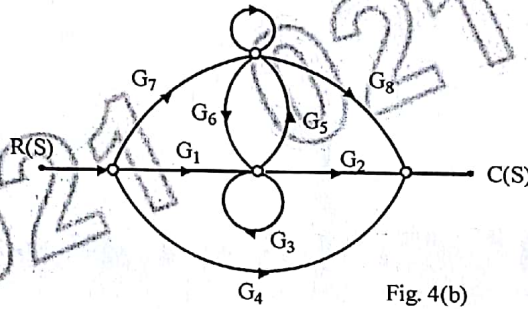

Fig. 4(b)
- b) Determine transfer function  $C(s) / R(s)$  of signal flow graph show in fig. 4 (b) using Mason's gain formula.